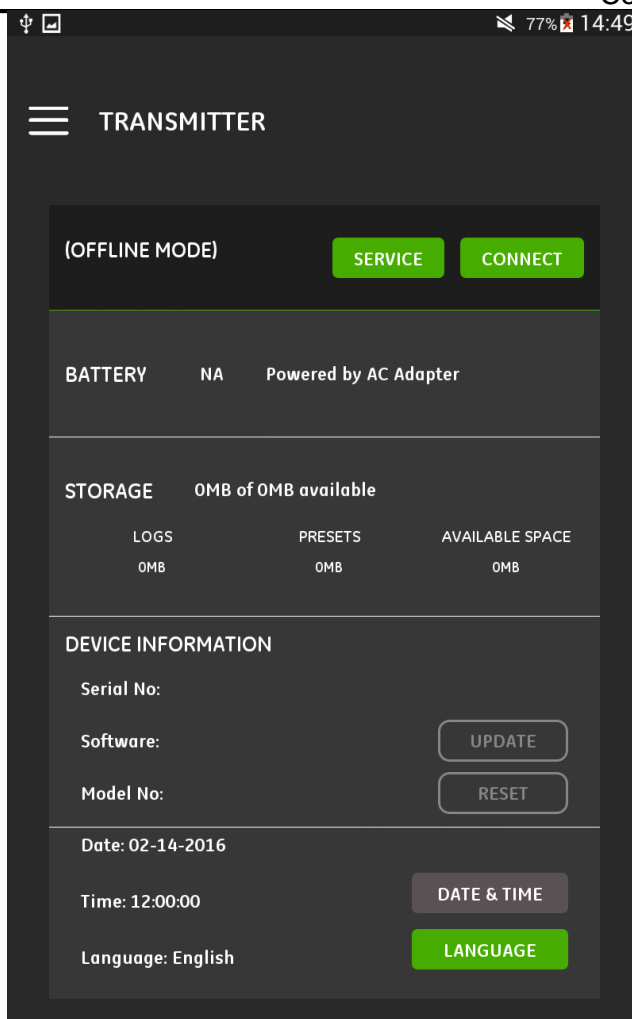

Figure 55: Transmitter Offline
- The PT900 flowmeter is a portable device, and the battery capacity is an important parameter and it could be read in percentage here. As shown in figure 55, in OFFLINE MODE, It would be unavailable.
- The PT900 flowmeter contains an embedded SD card, which saves much important information during the measurement and operation. The current **STORAGE** status could also be read and subdivide into LOG/PERSETS/AVAILABLE SPACE. As shown in figure 55, in OFFLINE MODE, It would be unavailable too.